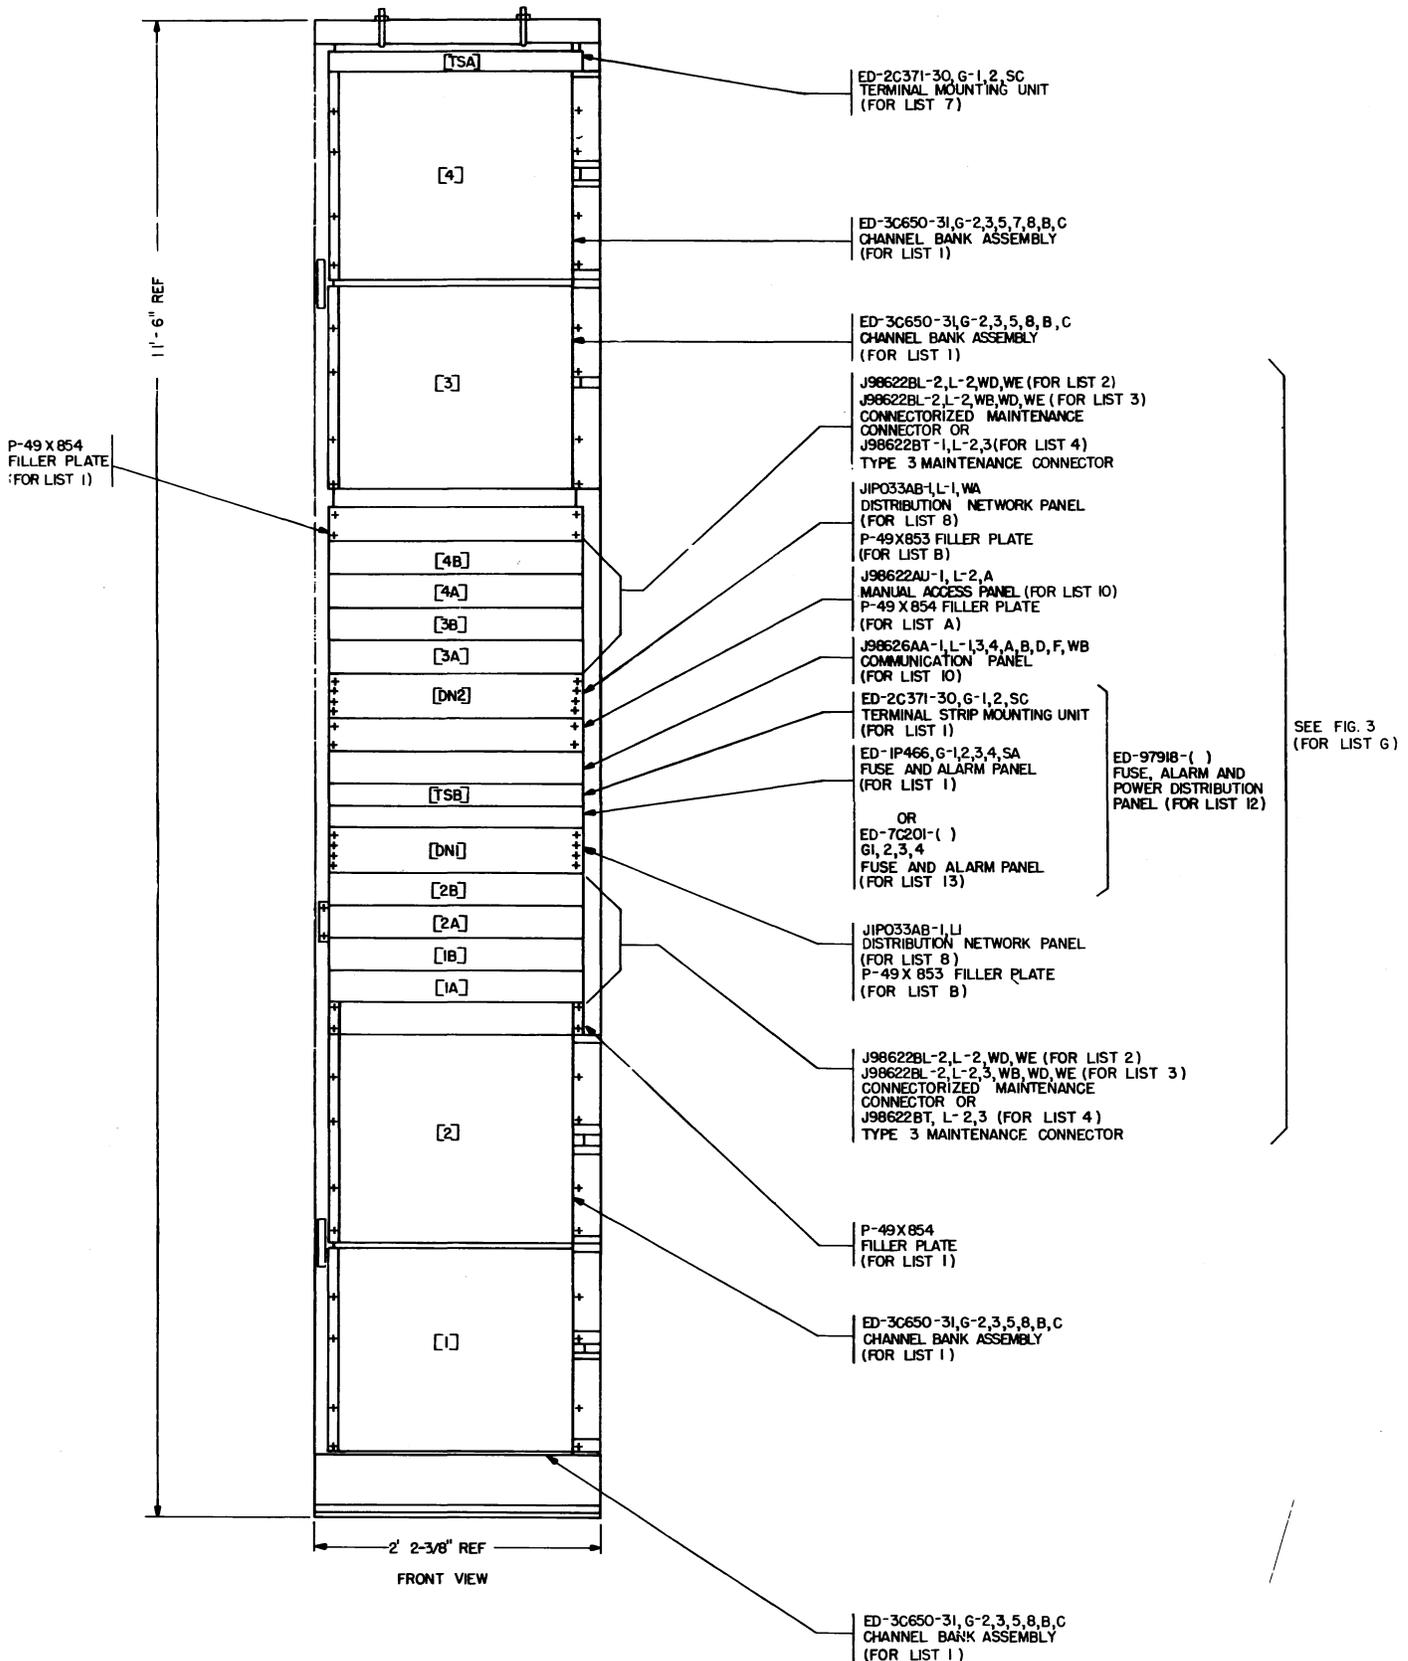
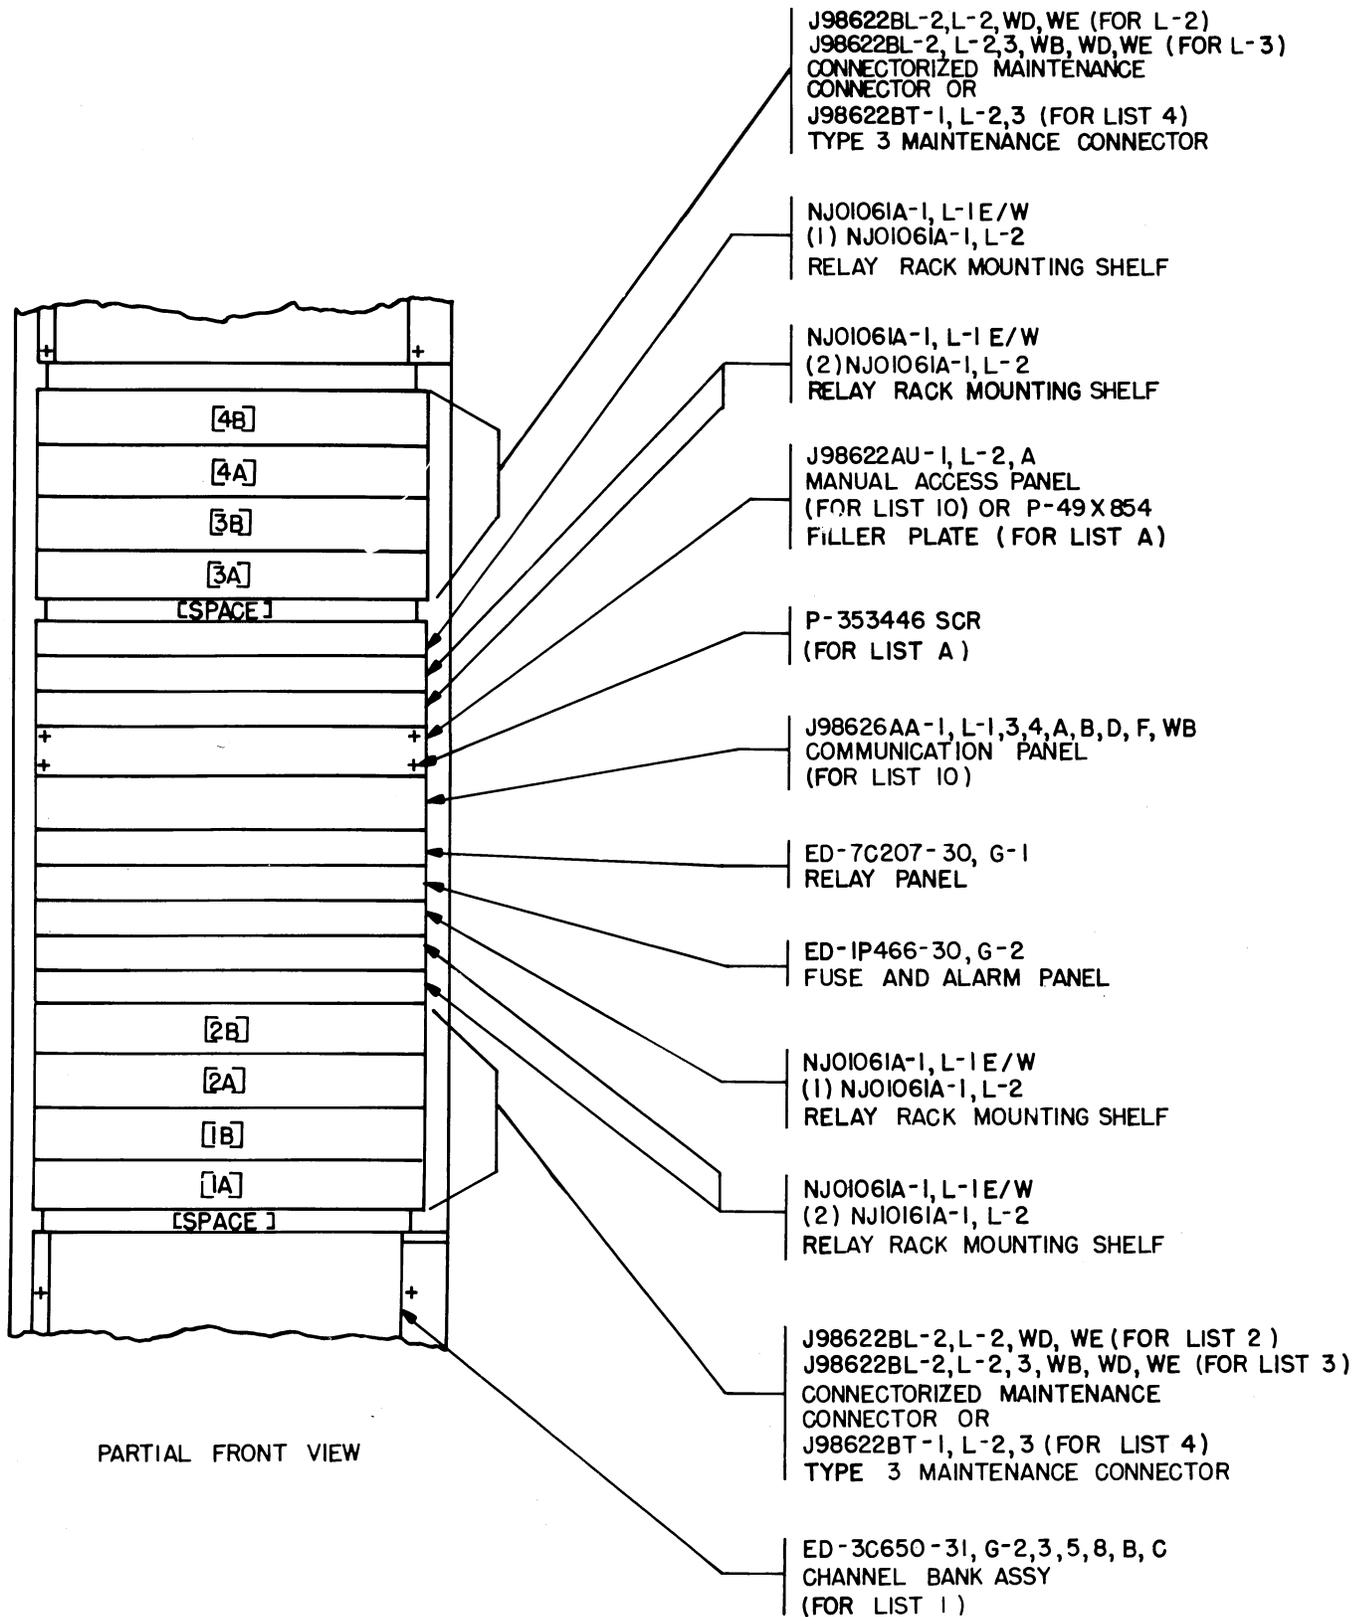

Fig 1—J98733A (Mfr Disc)
Fig 2—J98733A For Option G Only (Mfr Disc)
**1.03** The J98733A bay (Mfr Disc) is shown in Fig 1 and in Fig 2 (option G only). The bay, of 11-foot 6-inch height, is an unequal flange cable duct-type bay which provides equipment for 192 circuits. Included in this bay are four D4 channel banks (ED-3C650-31); eight connectorized maintenance connector panels J98622BL, BK, or BT (Mfr Disc) for SMAS. One fuse and alarm panel ED-76201-( ) or one fuse, alarm and power distribution panel ED-97918-30 (when -72V extended range talk battery is required for the channel bank special service units), or fuse and alarm panel ED-1P466-( ) when option G VF attenuators are required. The J98733A (option G, Mfr Disc) provides options for six VF attenuators (NJ01061A) and one companion relay